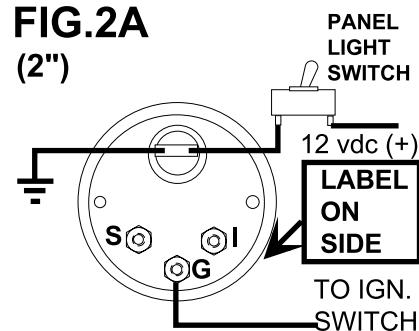

FIG.2B
2. For types shown in Fig. 2B and 2C, run a wire from "IGN" terminal of Gauge to "IGN" Terminal of ignition switch or "IGN" terminal of another Gauge.